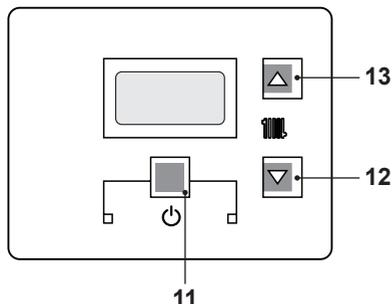
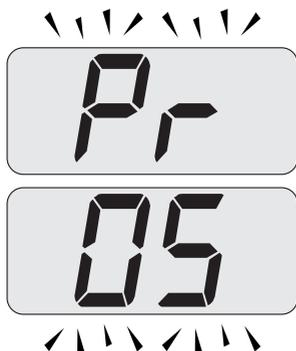

Fig. 8.3
Fig. 8.5
- Enter in "programming mode" by pressing keys 11 - 12 - 13 (Fig. 8.3) for 10 seconds at the same time until the letters Pr that alternate with code 01 are displayed on the LCD display, indicating that "parameter
- Scroll the various parameters using keys 12 or 13 until the letters **Pr** that alternate with code **05** are displayed on the LCD display, indicating that "parameter 05" (Fig. 8.5) has been activated.
- Press keys 11 and 13 (Fig. 8.3) at the same time until the value of parameter 05(00=G20) is displayed on the LCD display (Fig. 8.6).
- By pressing key 13 three times, it is possible to change the value of parameter 05 from **00**=G20 to **05**=G31, which is ok for LPG gas.
- By pressing key 11 (Fig. 8.3) confirmation of the inserted value is obtained.
- Press keys 11 and 12 (Fig. 8.3) at the same time to exit without changing the value (return to the parameters list Fig. 8.5).
- Press keys 11 - 12 - 13 (Fig. 8.3) at the same time for 10 seconds to exit the "programming mode".